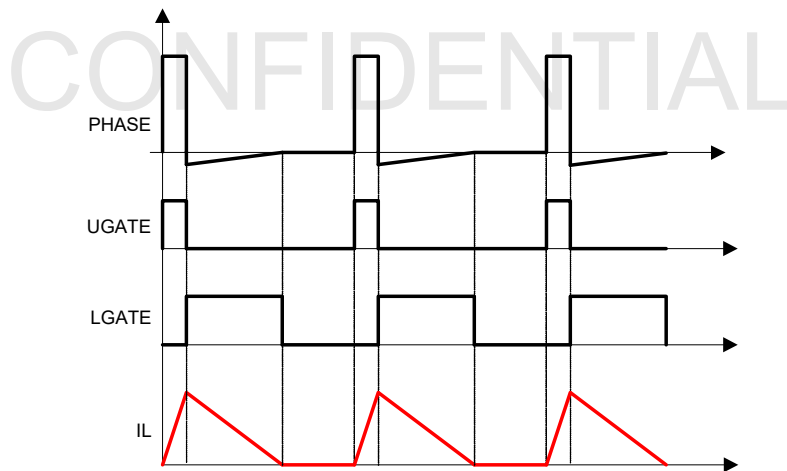

Figure 34. Diode Emulation
The R3 modulator can operate in Diode Emulation (DE) mode to increase light-load efficiency. In DE mode, the low-side MOSFET conducts when the current is flowing from source-to-drain and does not allow reverse current, which emulates a diode. As shown in Figure 34, when LGATE is on, the low-side MOSFET carries current and creates negative voltage on the phase node due to the voltage drop across the ON-resistance. The IC monitors the current by monitoring the phase node voltage. It turns off LGATE when the phase node voltage reaches zero to prevent the inductor current from reversing the direction and creating unnecessary power loss.
If the load current is light enough, as Figure 34 shows, the inductor current reaches and stays at zero before the next phase node pulse, and the regulator is in Discontinuous Conduction Mode (DCM). If the load current is heavy enough, the inductor current never reaches 0A, and the regulator is in Continuous Conduction Mode (CCM) although the controller is in DE mode.